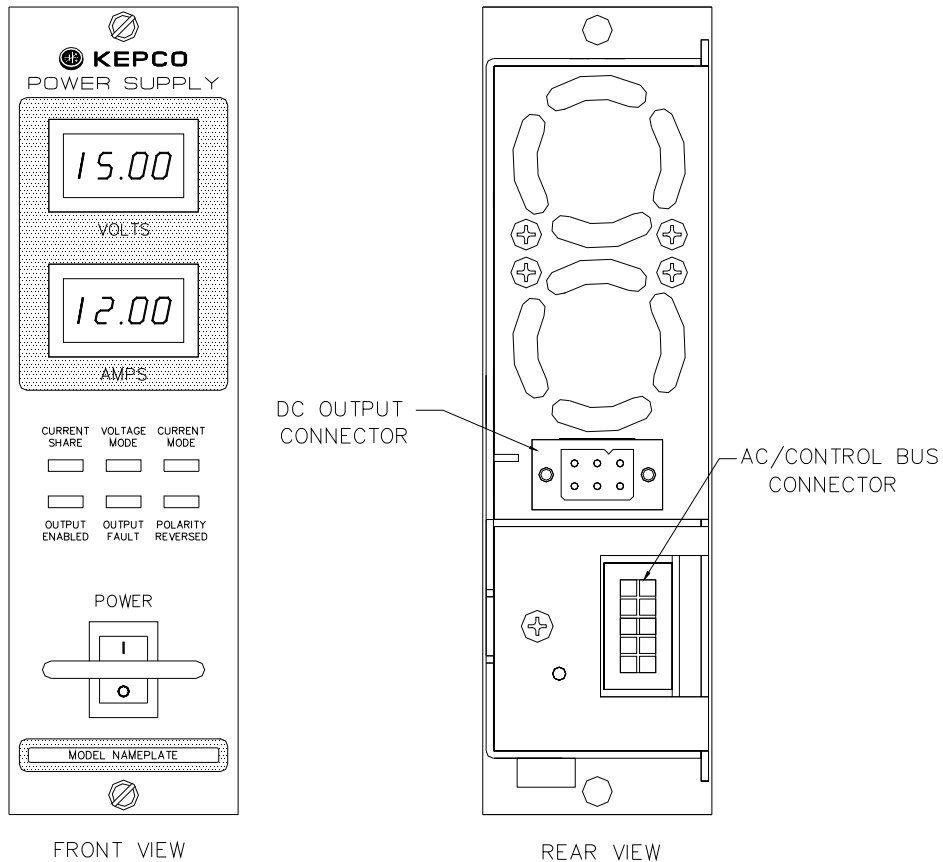

FIGURE 2-1. FRONT AND REAR VIEWS OF THE MST POWER MODULE
- b. Front Panel: Refer to Figure 2-1 and Table 2-2.
- c. Rear Panel: Refer to Figure 2-1 and Table 2-3.